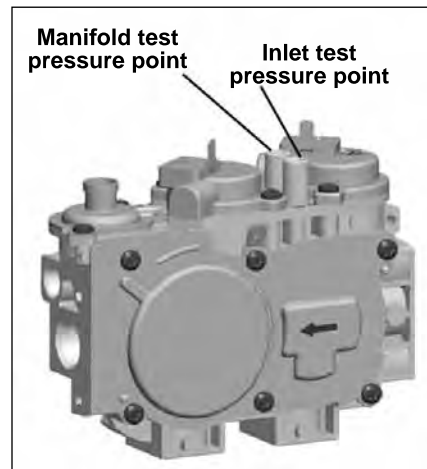

Figure 59: Pressure Test Points.
- b. Place a $\frac{1}{4}$ " silicone tube over either pressure port on the valve (refer to Figure 59). Attach the tube to a monometer.